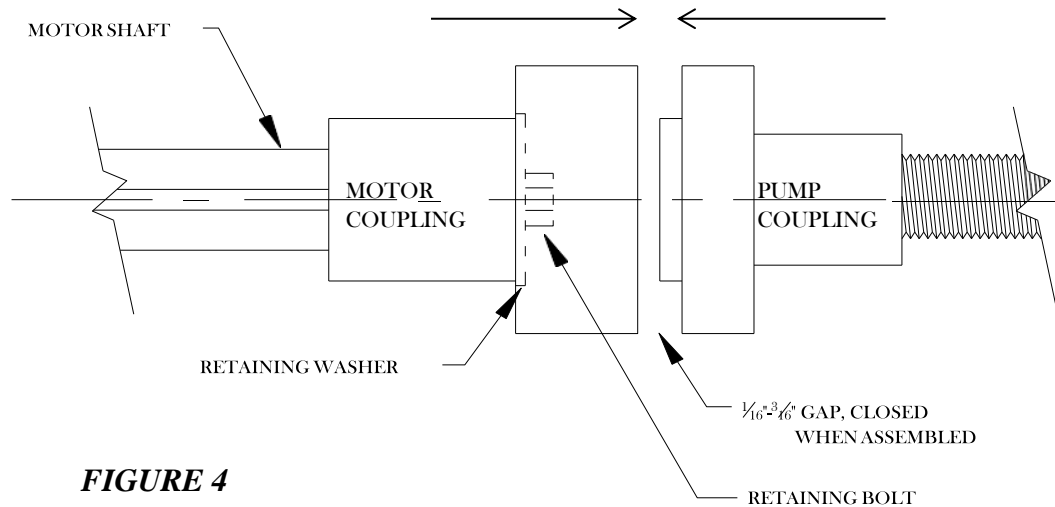

FIGURE 4
3. Four (4) GRD #8 bolts are used to fasten the pump half coupling to the motor half coupling. A pair of slip joint pliers may be used to hold the coupling from turning. While removing the bolts, you may notice a gap of 1/16" to 3/16" open up between the coupling halves when the last bolt is removed; this is normal. (*See Figure 4*)